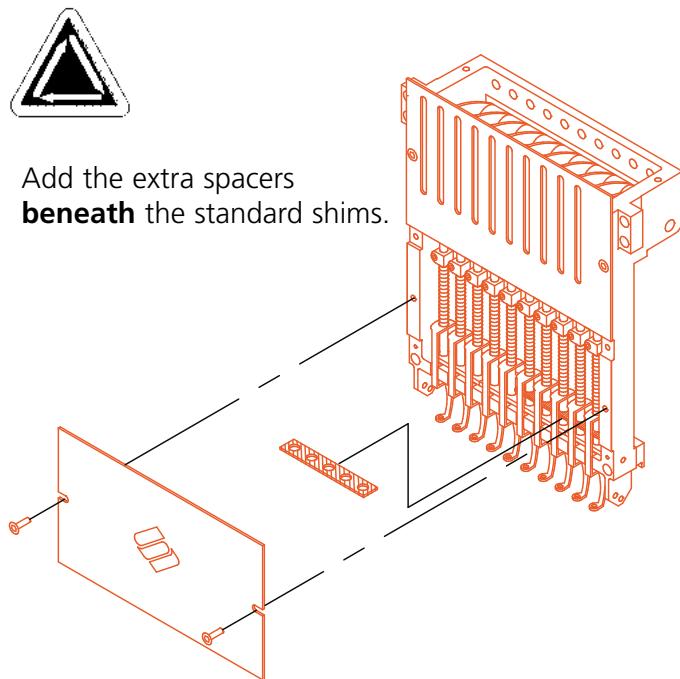

Figure 3-12
Raised needle plates may improve embroidery quality on caps. When cap frames are attached, the curve of the frame leaves extra space between the cap and the needle plate. To eliminate the space and ensure high-quality embroidery, a qualified operator or maintenance person should install raised needle plates as described below. See Figure 3-12.
6. Using a small flat-bladed screwdriver, push the standard spacer up to the top of the presser foot driver assembly (see Figure3-12).